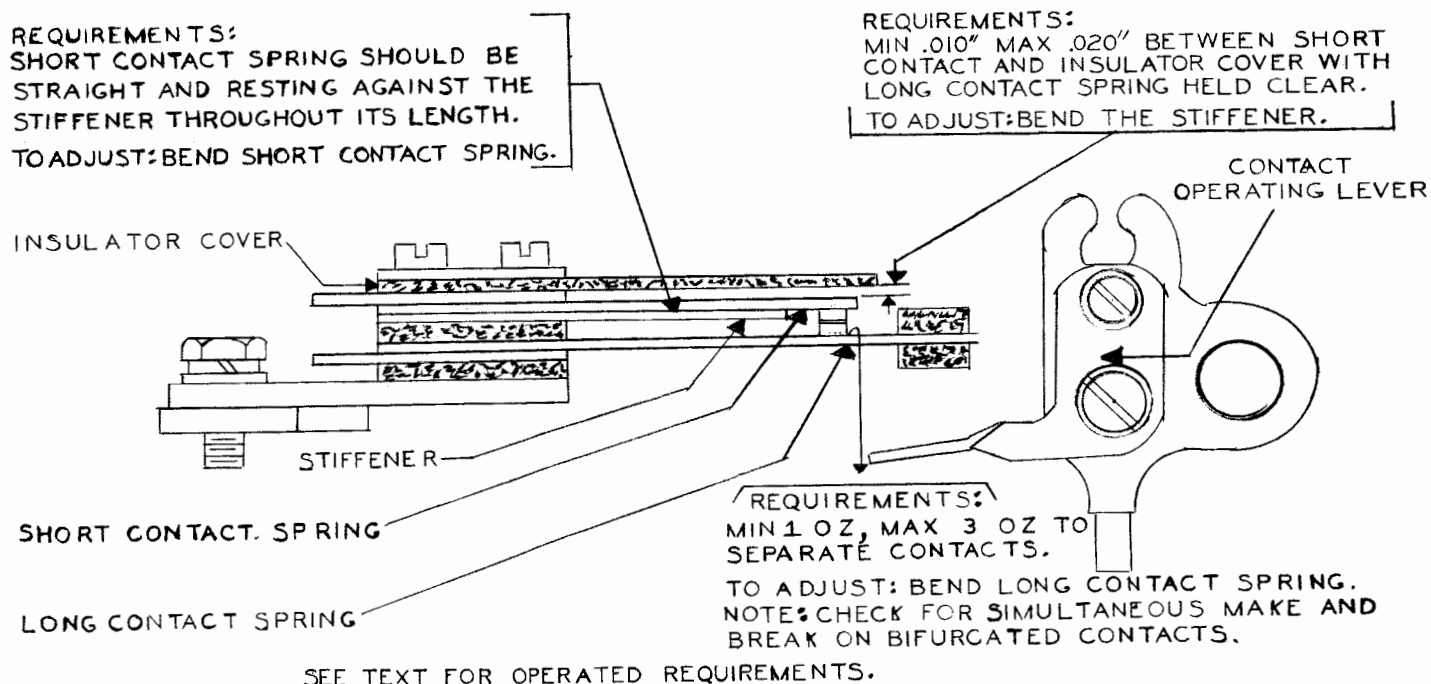

Figure 10
2.18 Platen-shift Contact Assembly (FIGS-Make Type) (See Figure 10)
Note: The adjustments of Figure 10 and 2.17 (a) should be made only when the mechanism is obviously out of adjustment. Remove the contact and bracket assembly except for the adjustments involving the operating lever. (See Figure 10.)
There should be a gap of minimum 0.015 inch, maximum 0.020 inch between the upper and lower contacts with the platen in the LTRS (rear) position. (See Figure 10.)